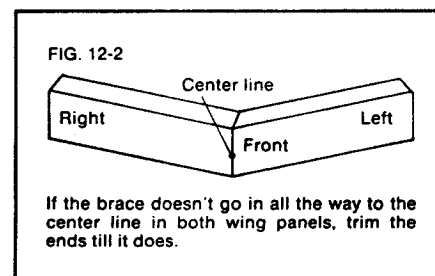

Fig. 12-1. Make sure that the parts are lined up, then clamp the spar joiner tightly while the epoxy cures.
2) Preparing the spar joiners: When gluing the spar joiners together, use epoxy rather than CA glue, and clamp the pieces with C-clamps or a vise as shown in Fig. 12-1. Use waxed paper to separate the parts being glued from the clamps. Make sure the parts are perfectly aligned. If they aren't, you may not be able to insert the joiner into the